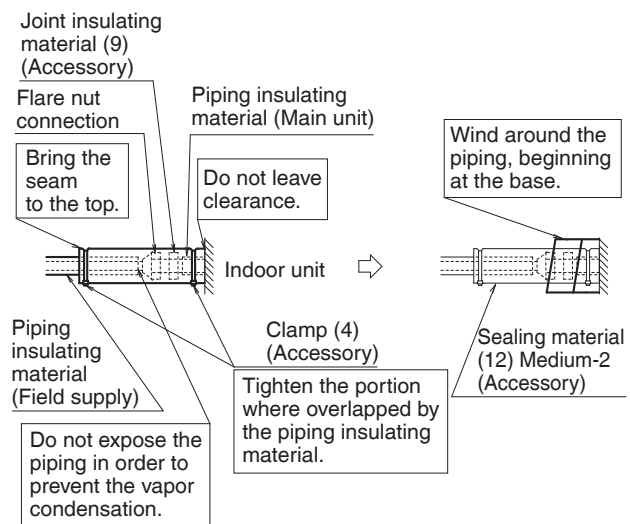
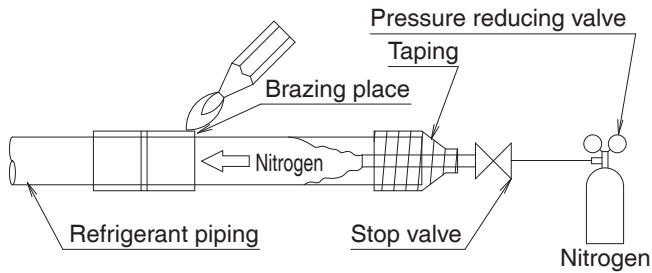

Fig. 12
Fig. 13
- After leak test, referring to **Fig. 12**, insulate both the gas and liquid piping connection with the attached joint insulating material (8) and (9) to prevent the piping from getting exposed. Then, tighten the both ends of insulating material with the clamp (4).
- Wrap the sealing material (Medium-1, 2) (11) (12) around the joint insulating material (8) and (9) (flare nut section), both the gas and liquid piping.
- Make sure to bring the seam of joint insulating material (8) and (9) to the top.
- Before brazing refrigerant piping, have nitrogen flow through the refrigerant piping and substitute air with nitrogen (NOTE 1) (**Refer to Fig. 13**). Then, carry out brazing (NOTE 2). After all the brazing works are finished, carry out flare connection with the indoor unit. (**Refer to Fig. 12**)